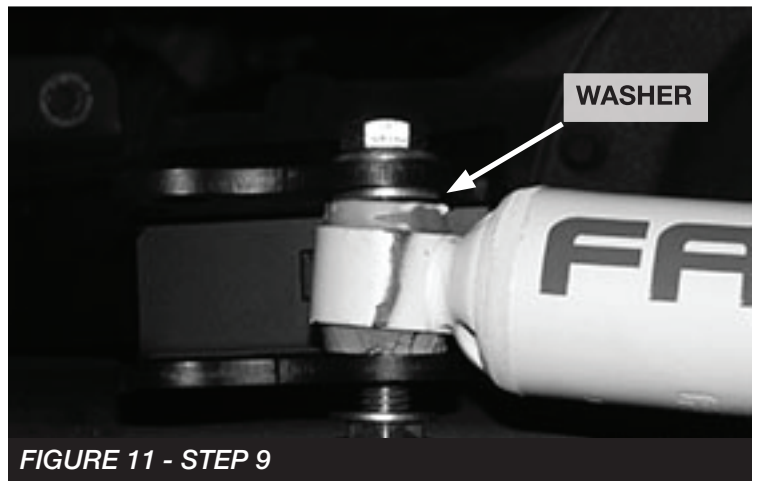

FIGURE 11 - STEP 9
9. Locate the supplied 1/2 -13x 3" bolts, nuts, and washers. Install the stabilizer with the body towards the center of the vehicle. **NOTE: when installing FTS7006 and FTS6604 into the center axle bracket use the extra washer in-between the bushing and bracket mount. SEE FIGURE 11**